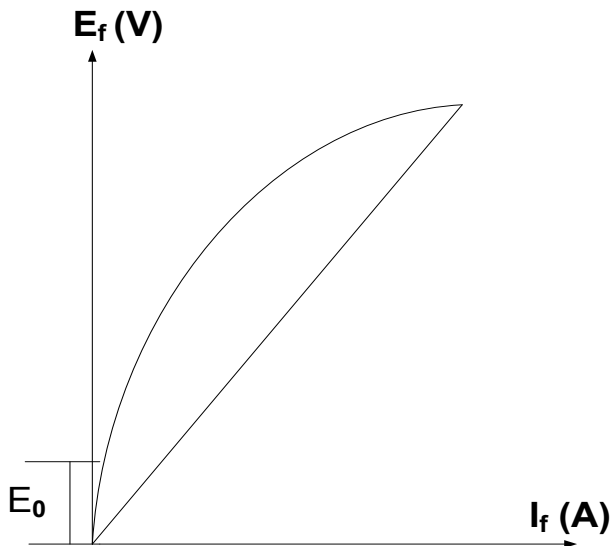
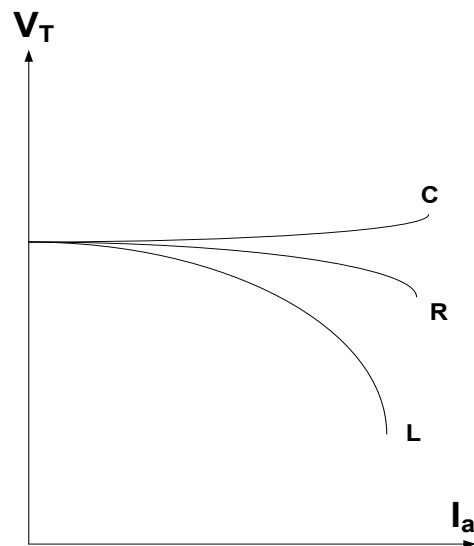

Fig.1. Open-circuit Characteristic of an alternator
Fig.2. Load Characteristics of an alternator
A.C. voltage generated at alternator terminals can be adjusted by varying the excitation current flowing through the field winding. The higher the excitation current will be, the higher the generated voltage in the armature. When a residual flux is established, the open-circuit characteristic of the alternator does not commence from the origin as can be seen from Fig.1. That is, as the excitation current is zero, the terminal voltage will be equal to the alternator's rated voltage. When the load is reduced, a voltage rise may be observed. If the load is a capacitive load characteristic of an alternator, the characteristics are illustrated in Fig.2.